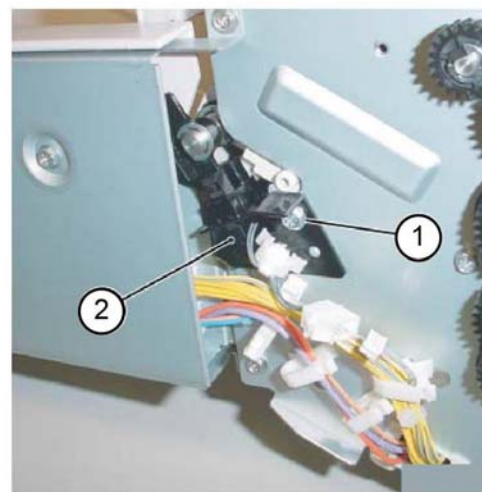

Figure 2 Set clamp home sensor assembly removal
4. Remove the set clamp home sensor assembly, Figure 2:
- a. Remove the screw (1).
- b. Remove the set clamp home sensor assembly (2).